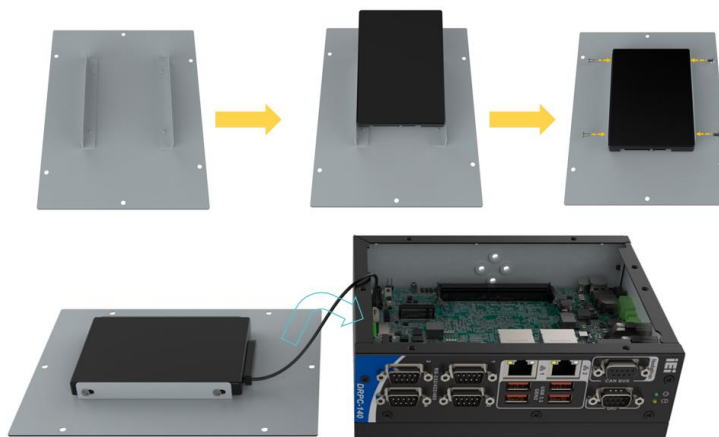

Figure 3-7: HDD Installation
Step 2: Connect the hard drive cable to the HDD and to the SATA connector on the motherboard. Install the cover back into the DRPC-140-EHL Series by using 6 screws (pay attention to the positioning stud). **(Figure 3-7).**